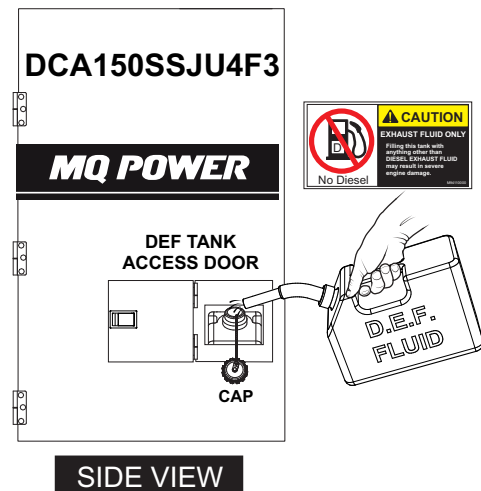

Figure 43. DEF Tank Filling (DCA150SSJU4F3)
- For DCA150SSJU4F3 generators, open the DEF **access door** (Figure 43), remove the filler cap and fill with DEF fluid.